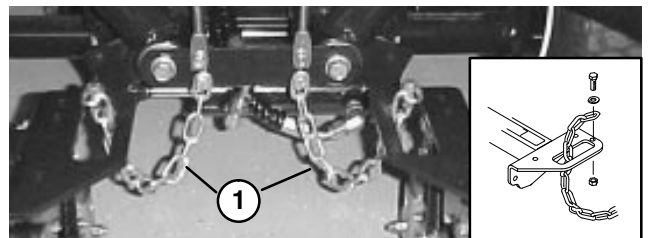

Figure 20
4. Route a tipper chain up thru slot in end of each carrier frame. Secure tipper chain to top of carrier frame with a capscrew, washer and locknut (Fig. 20).